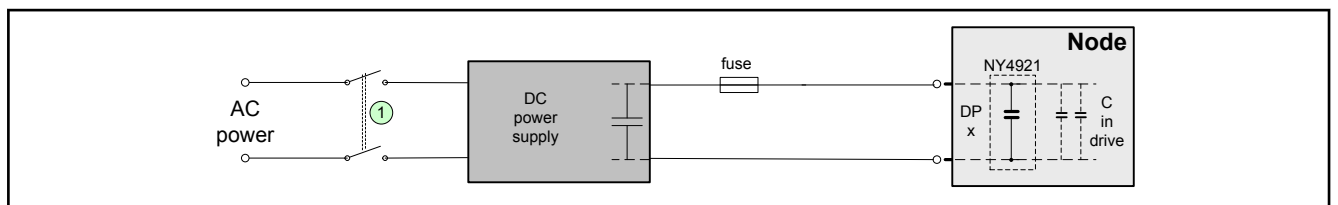

Fig. 8-4: Schematic of drive power supply to a node
The preferred method to switch on and off the drive power is by means of the mains switch as indicated by ① in fig. 8-4 "Schematic of drive power supply to a node" on page 67 to prevent destructive inrush currents.